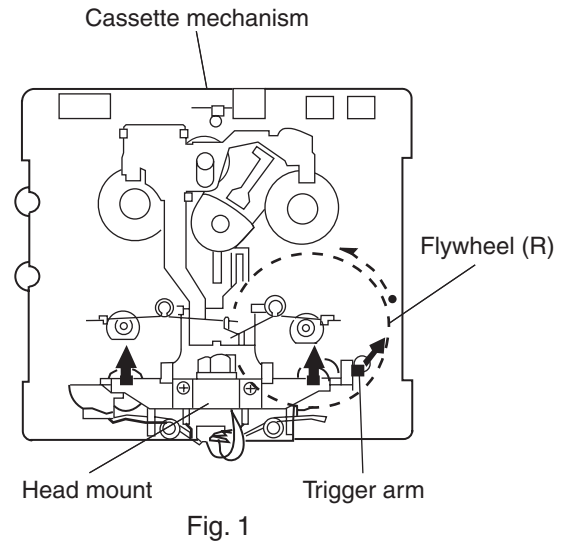

Fig. 1
■Removing the playback / recording & eraser head (See Fig. 1 ~ 3)
1. While shifting the trigger arms seen on the right side of the head mount in the arrow direction, turn the flywheel R in counterclockwise direction until the head mount has gone out with a click (See Fig. 1).